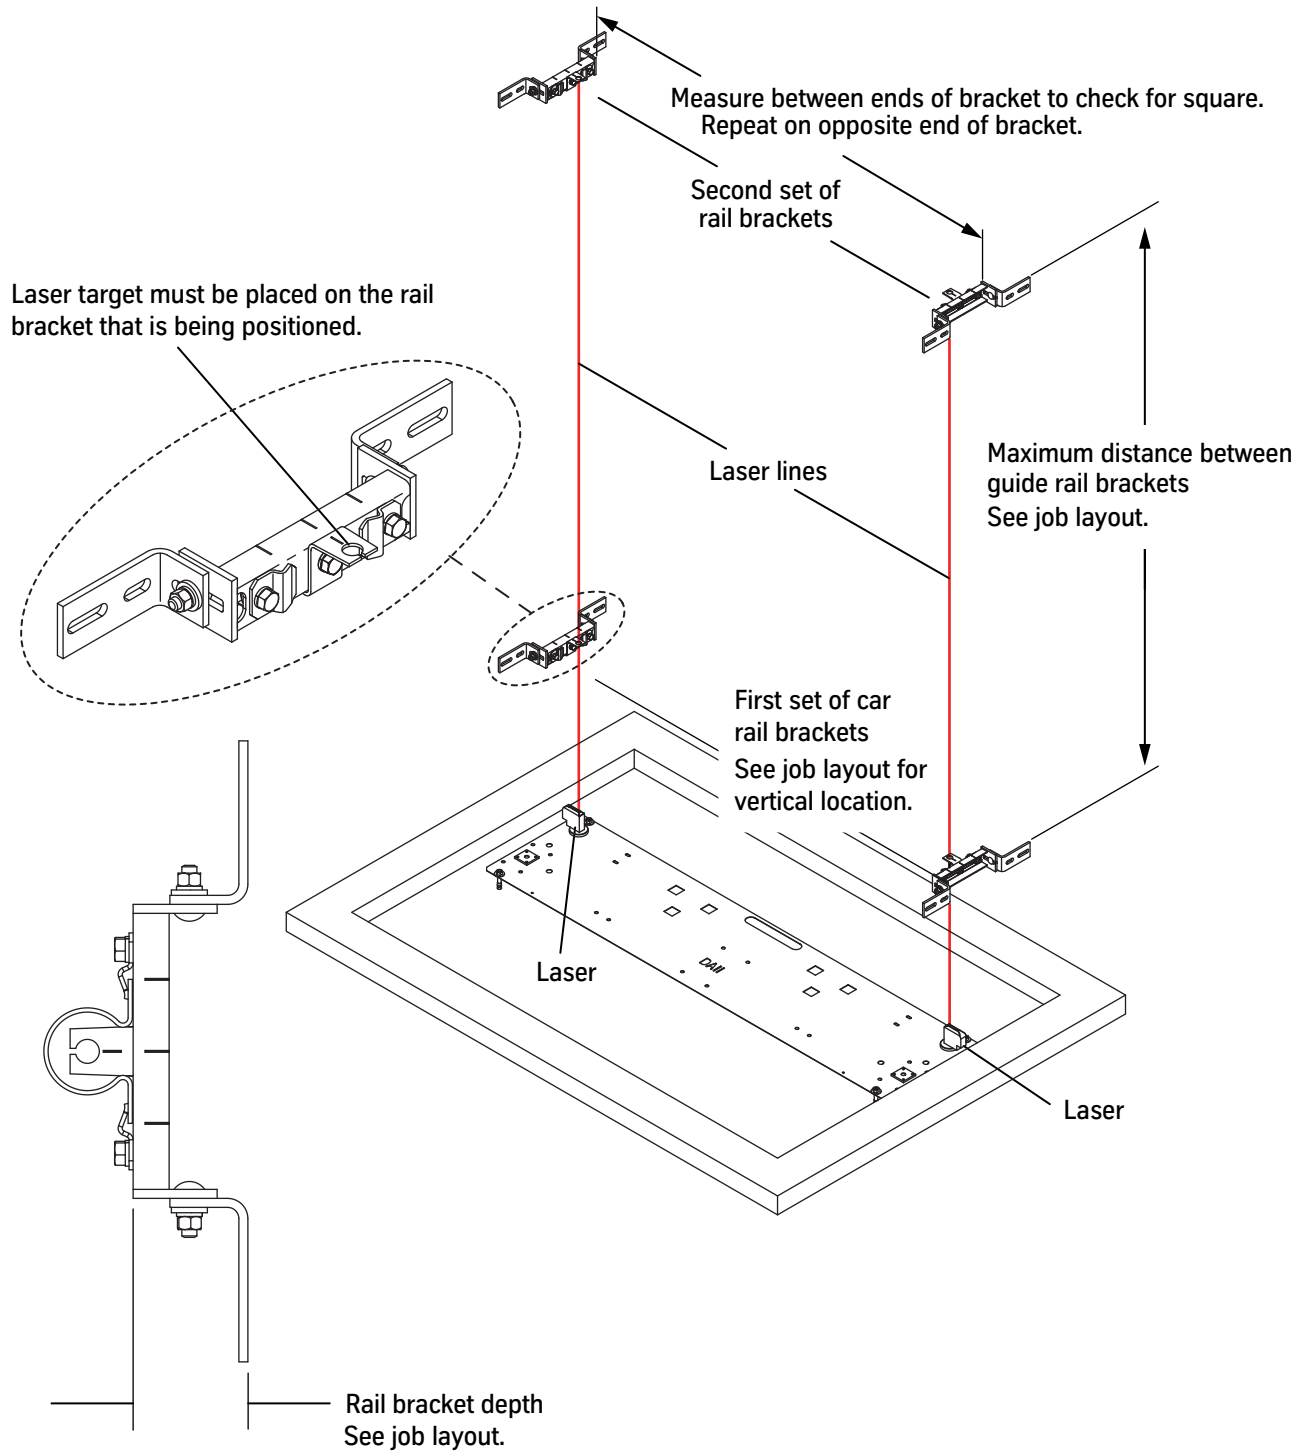

Figure 26 - Car Rail Bracket Installation
1. Set the depth of all rail brackets per the dimensions given on the layout. See Figure 26 on page 51.